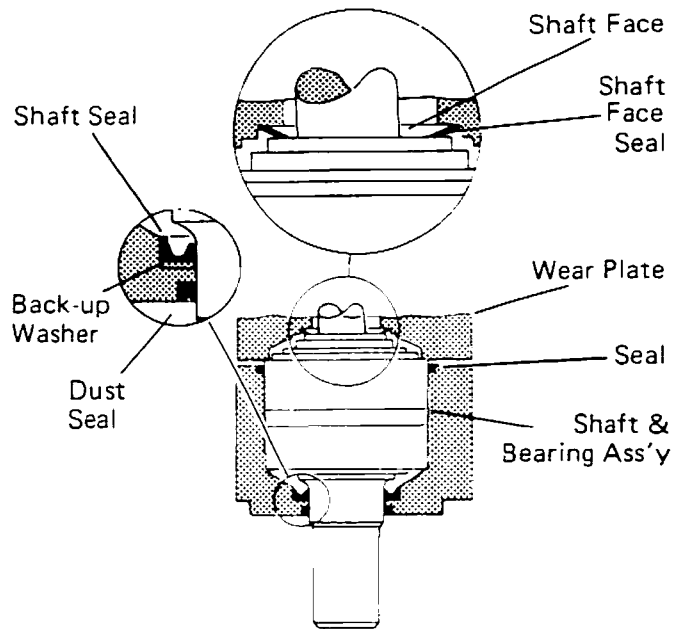

figure 12
- 23 Press the dust seal into the outer bore of the bearing housing. The lip of this seal must face outward, see figure 12. Be sure the dust seal is inserted straight and is undamaged.
29 Install the shaft face seal in the wear plate as shown in figure 12.
30 Install the wear plate, see figure 12. Be sure to align the notch in the wear plate with the scribe mark on the bearing housing.